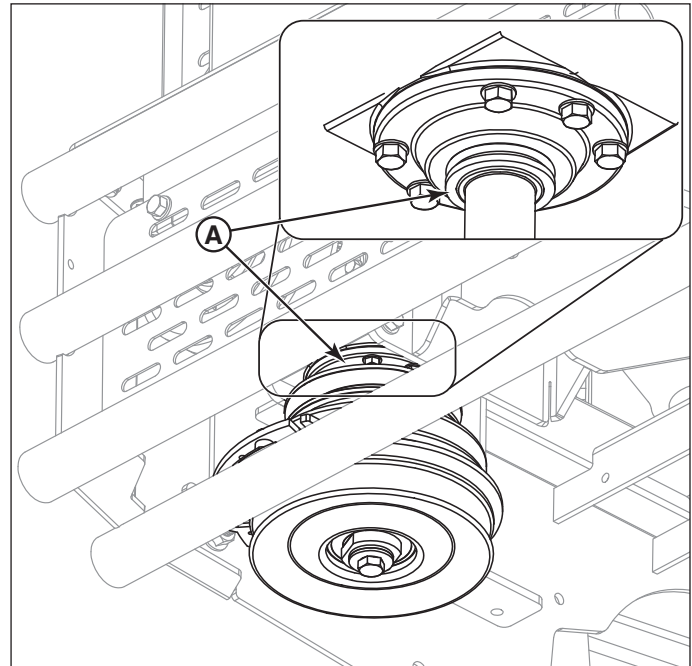

Figure 2. Checking the Gearbox for Oil Leaks
4. Inspect the gearbox's lower seal (**A, Figure 2**) for oil leakage. From beneath the machine the bottom gearbox shaft seal can be viewed. If the gearbox is leaking oil there will be oil and excessive dust, grass, and debris built up.